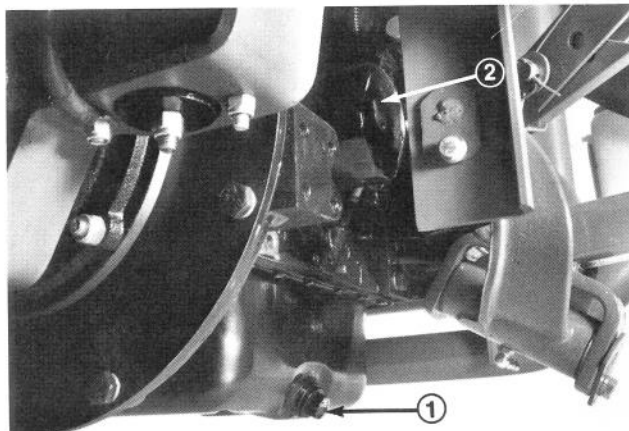

Figure 35
2. Open the hood. Set drain pan under the oil pan and in line with drain plug (Fig. 35).
4. Remove oil drain plug and allow oil to flow into drain pan. Remove and replace oil filter (Fig. 35); refer to parts catalog for part number.